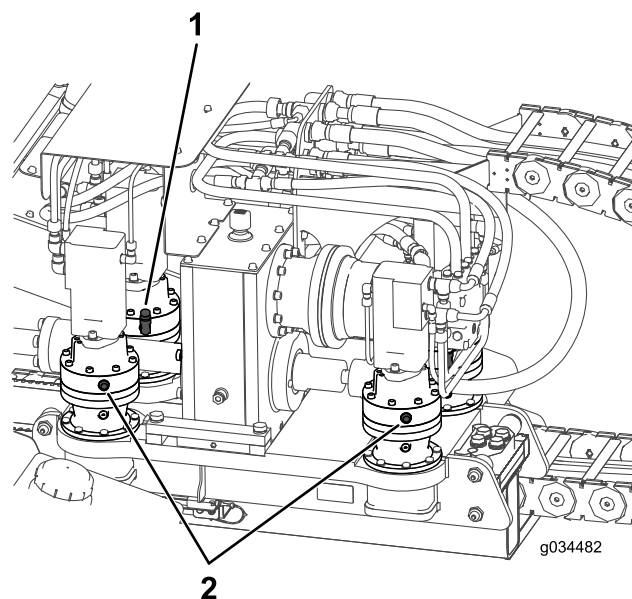

Figure 135
2. Check the oil level on the sight-glass on each thrust motor planetary drive (Figure 135).
3. Remove the breather cap and add the oil into the planetary drive until the oil level on the sight-glass is at least half full (Figure 135).
2. Check the oil level on the sight-glass on the gearbox drive (Figure 135).
3. Remove the breather cap and add the oil into the gearbox drive until the oil level on the sight-glass is at least half full (Figure 135).